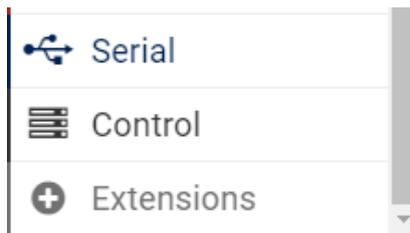
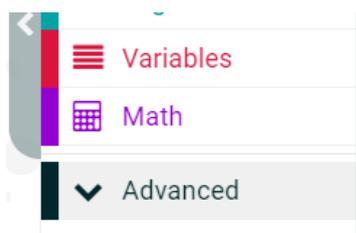

Figure 19
Figure 20
1. Open [www.makecode.microbit.org](http://www.makecode.microbit.org), click on 'New Project', then complete the Create a Project box. Next click on Extensions (Figure 19) under Advanced (Figure 20).